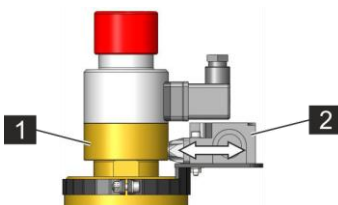

Fig. 99: Adjusting the switch
5. ➤ Pull the switch (Fig. 99/2) as far as possible from the housing of the electrical release device (Fig. 99/1).